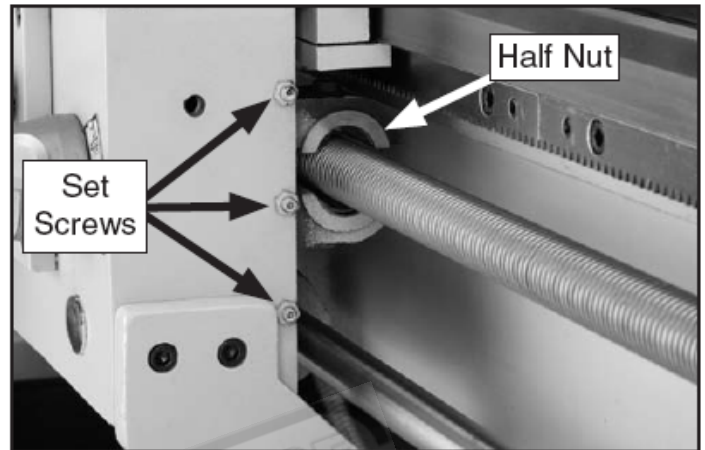

Figure 66
3. Loosen the hex nuts on the set screws shown in **Figure 66**